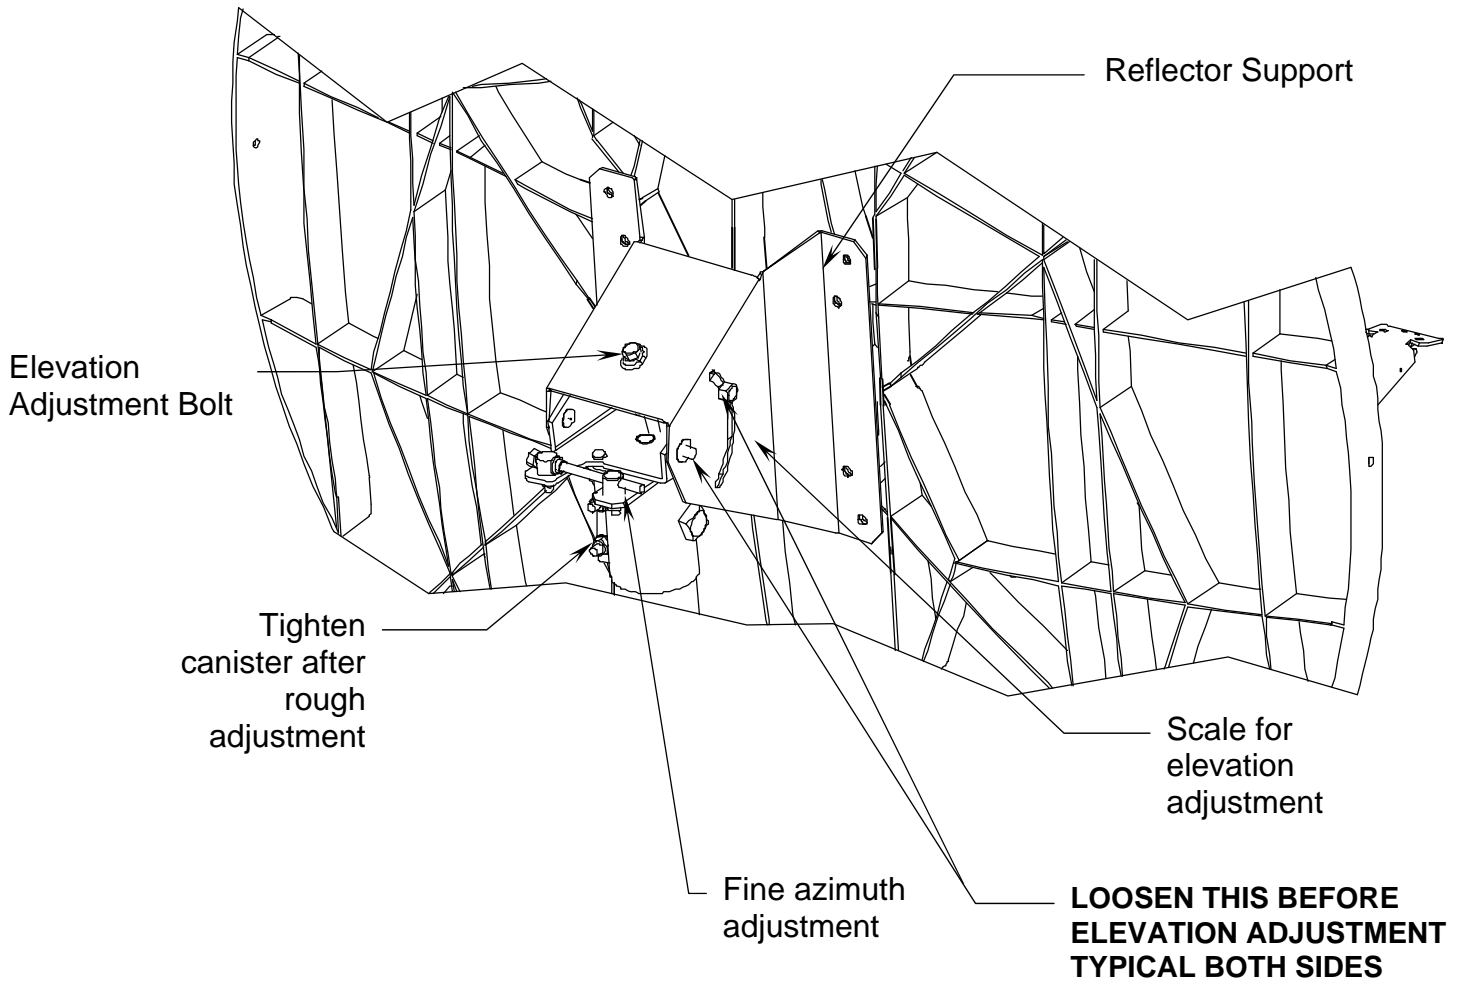

FIGURE 2.
The 1.2 meter reflector contains a 17.3° elevation offset look angle. Therefore, when the reflector aperture is perpendicular to the ground, the antenna is actually looking 17.3° in elevation. Refer to Figure 2.
- STEP 1:** BEFORE ADJUSTING ELEVATION LOOSEN THE HARDWARE ON BOTH SIDES OF THE POSITIONER, REFER TO FIGURE 2 FOR LOCATION. Adjust the reflector up or down in elevation by turning the 5/16" Bolt at the az/el positioner until the desired elevation is read on the side of the positioner. This scale is used for nominal readings and is accurate to ± 2 degrees. ***Note: Elevation rod is for adjustment only, it is not intended to be part of the structural integrity of the assembly, tightening the elevation rod is not necessary.*** Snug the hardware at the side of the positioner.